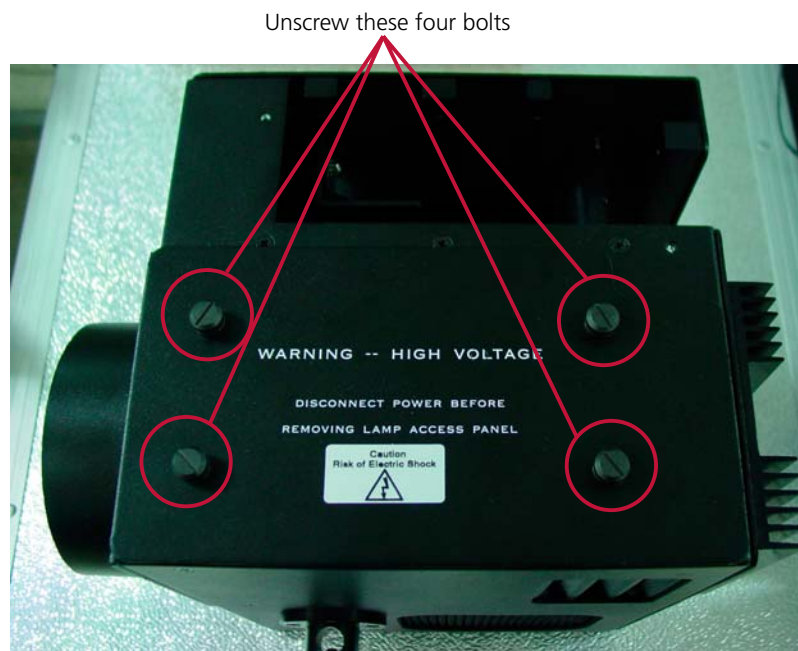

Figure 35 Unscrewing the bolts
1. Unscrew the four retaining bolts. They should be finger tight (Figure 35).
2. Replace the warning cover and hand tighten the bolts (Figure 35).